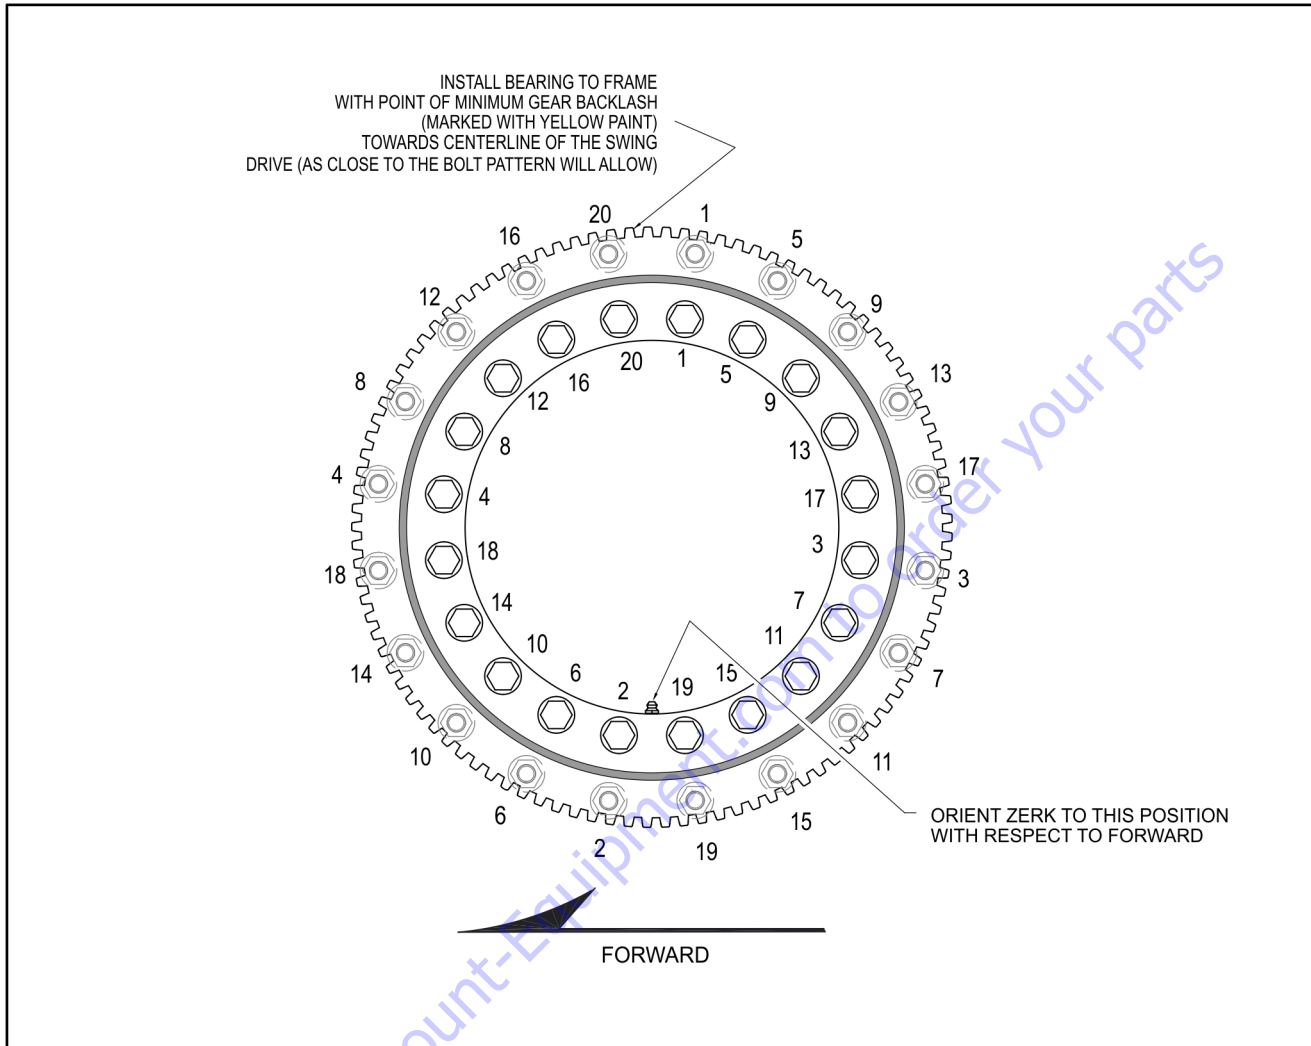

Figure 3-51. Swing Bearing Torque Sequence
3. Refer to the Torque Sequence diagram as shown in Figure 3-51., Swing Bearing Torque Sequence. Clean any residue off the new bearing bolts, then apply a light coating of JLG Threadlocker P/N 0100019 and install the bolts and washers through the frame and outer race of the bearing. Tighten the bolts to an initial torque of 190 ft. lbs. (258 Nm) w/JLG Threadlocker P/N 0100019.
8. Following the Torque Sequence diagram shown in Figure 3-51., Swing Bearing Torque Sequence, tighten the bolts to a torque of 190 ft. lbs. (258 Nm).